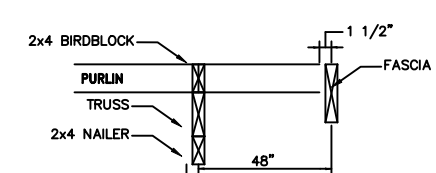

Figure 209-2
2. Gable overhangs - 8' on center truss: Run the purlins past the end truss and allow 1 1/2" for the fascia. Nail the purlins to the end truss as usual. Field cut 2x4 bird blocks and run them between the purlins. Add a 2x4 nailer below the top chord between the webs. See Figure 209-2.